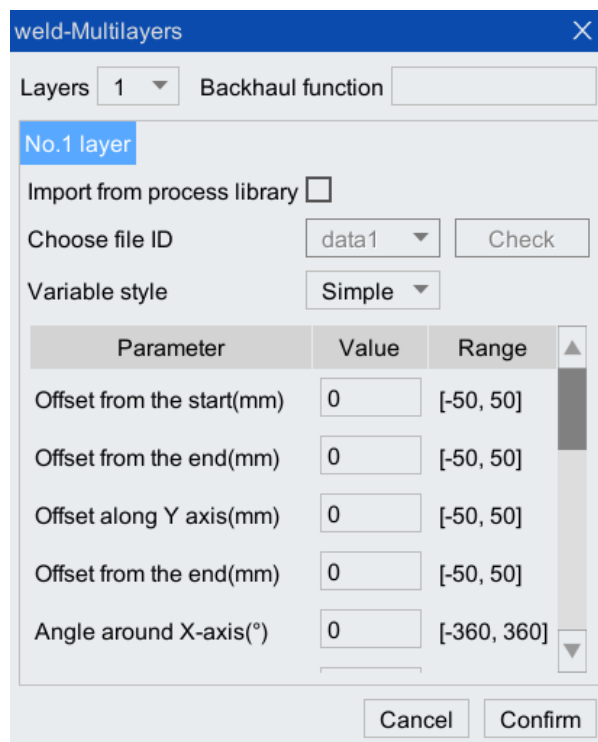

Figure 7-25 Insert multi-layer multi-pass instruction
- Step1. Click [Insert cmd/Function pack/weld/Weld Command/Multilayers] to enter the multilayers welding auxiliary programming instruction interface, as shown in Figure 7-25.